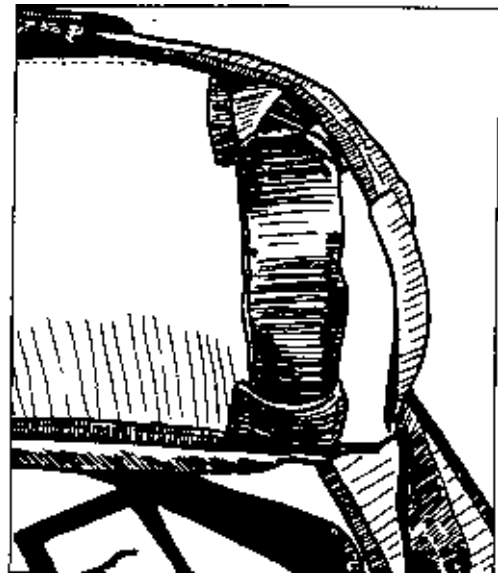

Figure 6
Step 5 Secure the handle in place in the pockets. Insert the lanyard end first in the plastic pocket and then the bottom in the web pocket. Make sure that the lanyard is free to slide through the grommet tab at the base of the pilotchute. **DO NOT TRAP THE TAB AND LANYARD UNDER THE MAIN BOTTOM FLAP. DOING SO WILL RESULT IN A PACK CLOSURE.** *Figures 6*